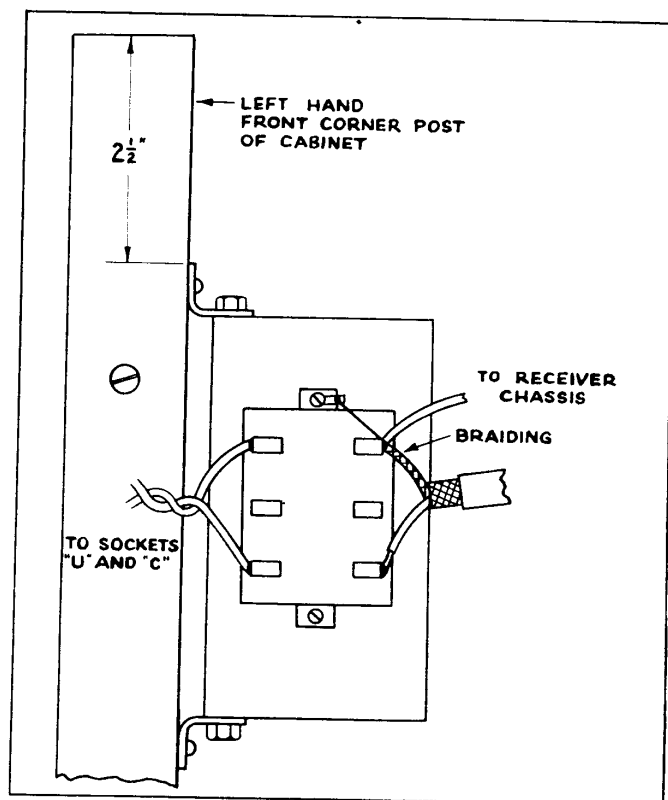

Fig. 14
13. Replace the receiver chassis and solder the connections to the transformer as shown in Fig. 14.